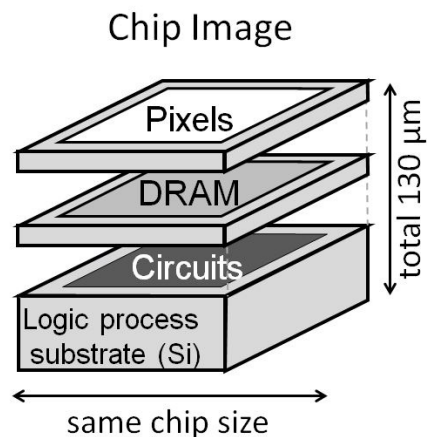

Figure 2 Structure of 3-layer stacked CMOS image sensor (By courtesy of Sony)
(1) Development of technology to bond three wafers of pixel/DRAM/logic (Fig. 2)